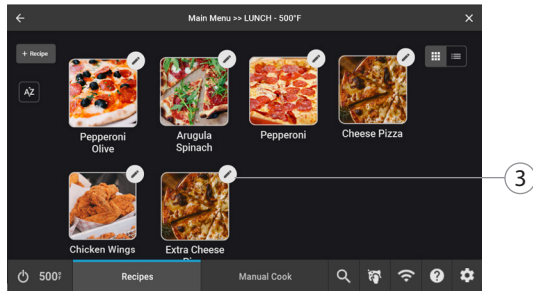

Figure 40: Select Recipe to Edit
3. Touch the Edit Pencil button for the group you want to edit (Figure 40, above).